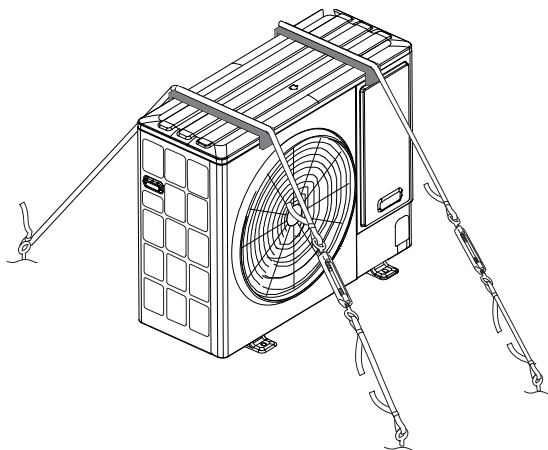

Fig. 38 —Preventing Units from Tipping Over
- Prepare two cables as shown in Fig. 38 (provided on-site).